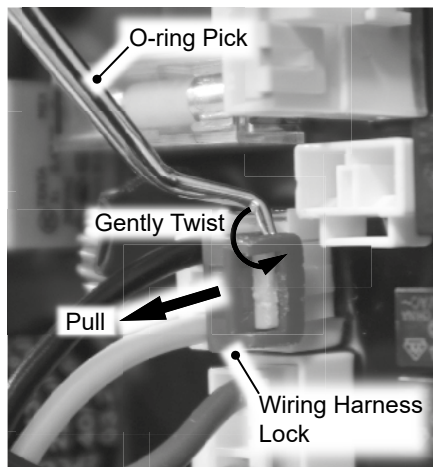

Figure 6 - Red harness lock removal
- 17 On connection point B, use an O-ring pick to apply pressure to the point shown in Figure 6 while pulling the harness from the board. Remove "keeper" and place aside in a safe place for reinstallation.